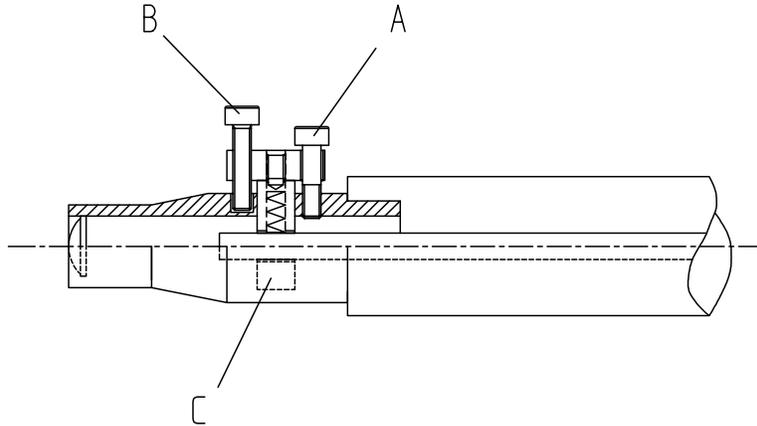

Figure 5.50 Mechanical zero adjustment
Near the tip of the module (Figure 5.50) there is a fiber optics holder (C) and two adjustment screws (See section 7, Parts list, Sensor items 9.4 and 9.5). The two screws work against each other in push-and-pull configuration. One screw (A) pushes the holder inwards and the other screw (B) pulls the holder outwards. The holder is locked by a combined push and pull force.
To increase the TEST reading move the holder (C) outwards (up in Figure 5.50), to decrease the TEST reading move it inwards (down in Figure 5.50). The output signal is generally a concentration signal inversely proportional to the TEST-reading. To be able to measure higher concentrations, move the holder (C) outwards, to measure lower concentrations move it inwards.